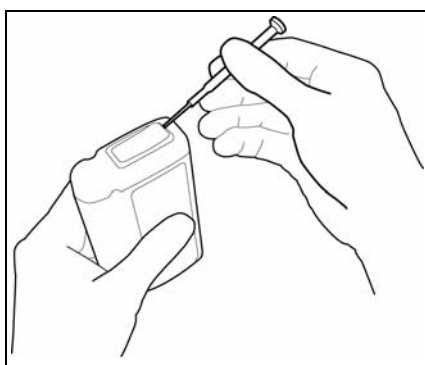

FIGURE 10-5 Removing Telepack Flexible Cover
1. Using care, remove the flexible cover from the connector on the bottom of the Telepack by using a small flat-blade screw driver or other similar tool (shown in FIGURE 10-5).